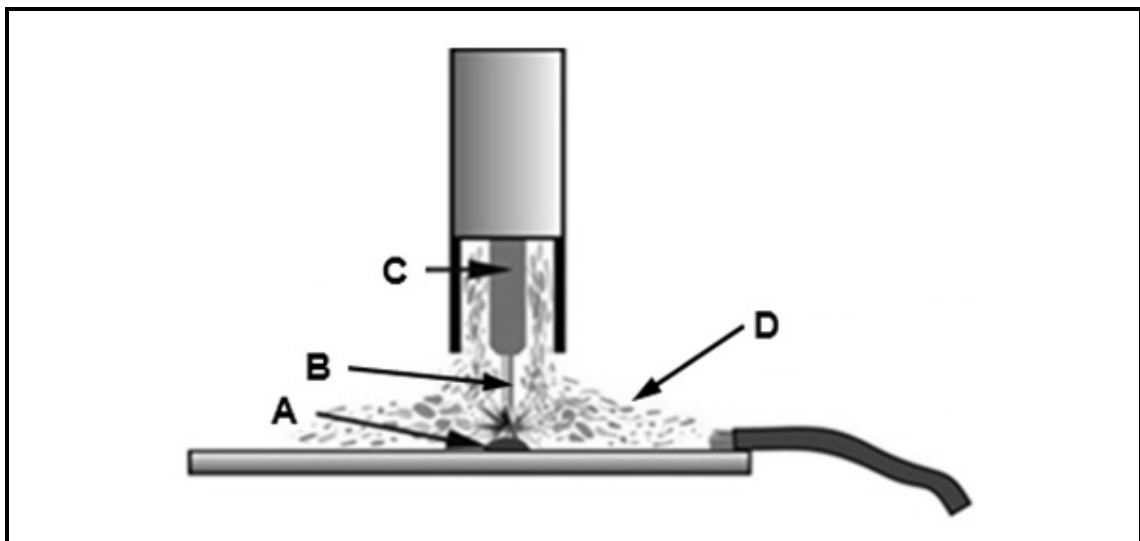

**FIGURE 5.5**
- 5.5 FIGURE 5.5 below shows a welding symbol. Label parts **A–F** on the welding symbol.